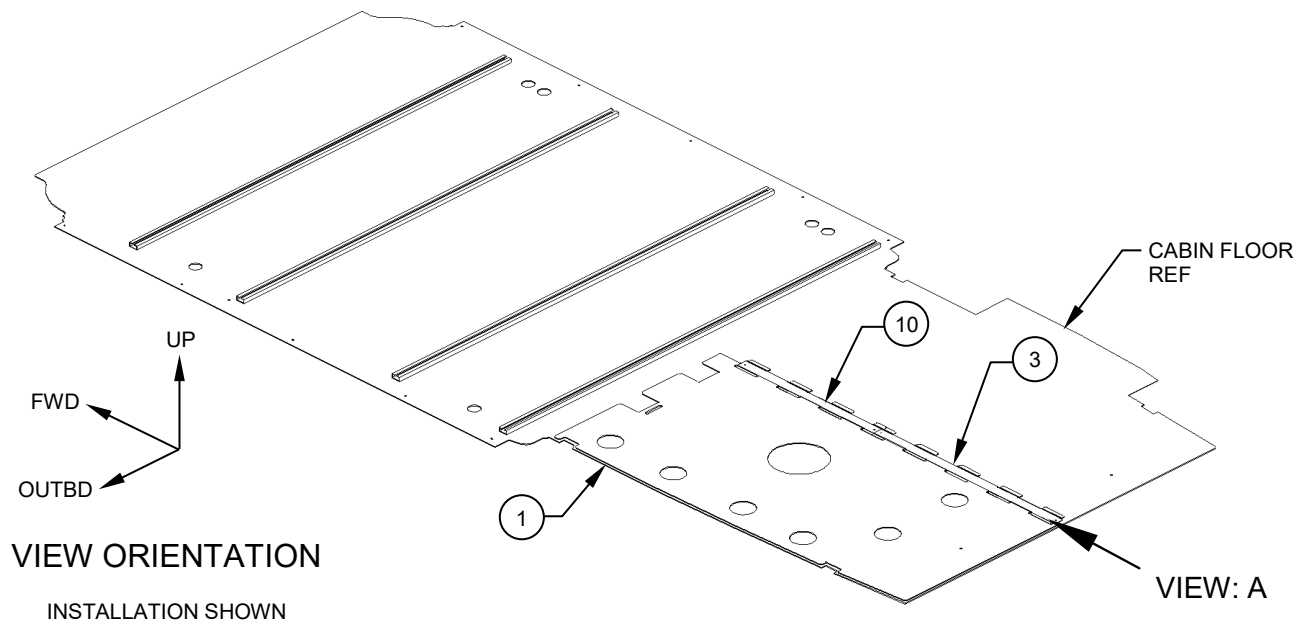

**Figure 9**
- Remove and discard the two most OUTBD fasteners common to the access panels near the AFT end of the cargo area. Remove and retain fasteners along cargo door sill. Reference Figure 9.
6. Install the provided fasteners (Item 12) as shown. Reference Figures 9 & 12